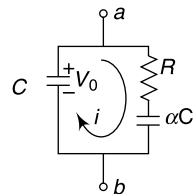

Fig. 2.50 Circuit of Ex. 2.37
2.37 In Fig. 2.50, a capacitor of capacitance C is charged to a voltage V_0 (dc) and is allowed to discharge through a resistance R while charging another capacitor of capacitance αC . Determine the final voltage at terminals ($a - b$) under steady state condition.